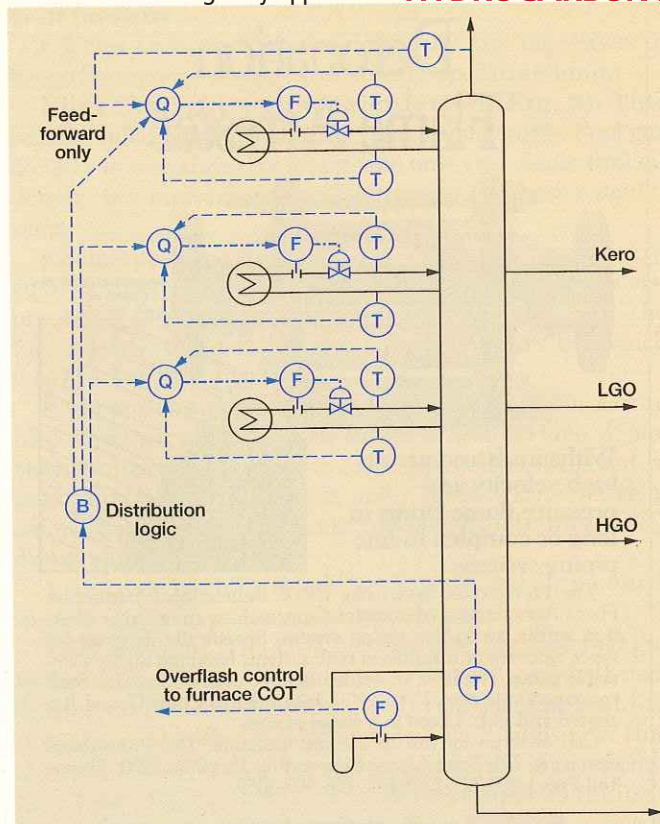

Fig. 3. Pumparound controls.
For the following, refer to Fig. 3. Note, however, that the figure is simplified such that inputs for each calculation block are only partially shown.
**Heat-duty controllers.** There are three such schemes, one for each pumparound. Using temperature and flow measurements, the schemes calculate heat duties and manipulate pumparound flows and/or return temperatures to keep that duty on target. Fig. 3 conceptually illustrates the schemes, although in reality the cooling circuits have more than one exchanger. Moreover, each scheme has additional logic to satisfy constraints. Example: reboilers must receive sufficient heat and the return temperatures must not drop below a certain value.